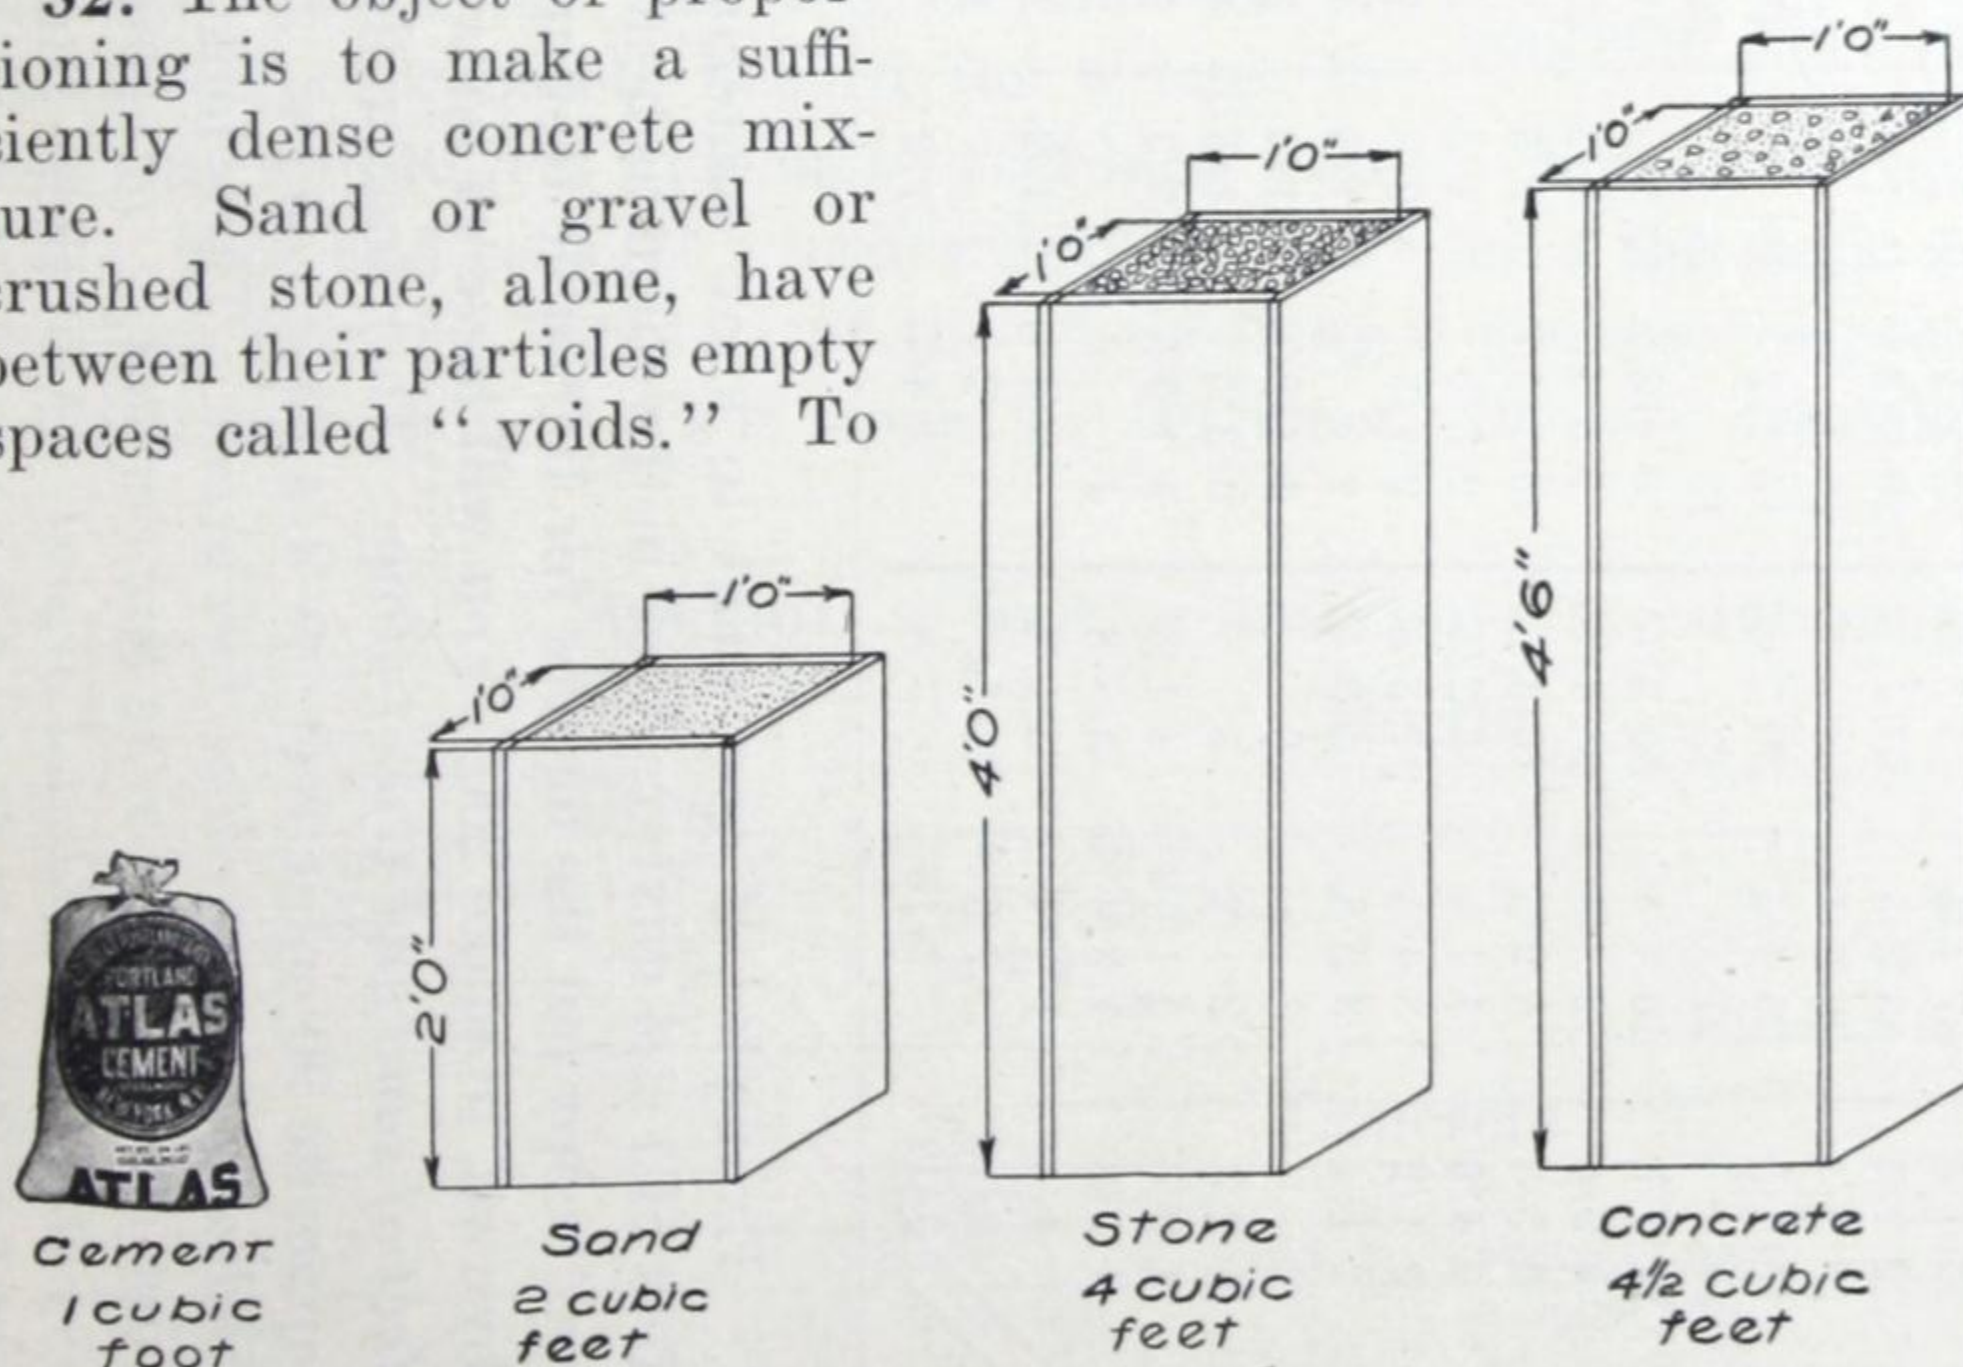

Fig. 6—Above, volumes of the three materials and—at the extreme right—resulting volume of concrete.
33. If you bear in mind what has been said about voids—that sand fills in voids in the stone, and that the cement fills in the voids between the grains of sand—then you will not make the common mistake of estimating that *one* cubic foot of cement, *two* cubic feet of sand and *four* cubic feet of stone will make seven cubic feet of concrete. Because so much of the material is used up filling voids, the actual total quantity of concrete obtained by mixing these quantities of aggregates is only a little more than the quantity of stone—four cubic feet—see Figure 6.
*Note.*—The mortar and concrete tables below give the cubic foot quantities of mortar and concrete respectively resulting from each of the mixtures shown. See Fig. 6 on page 7.